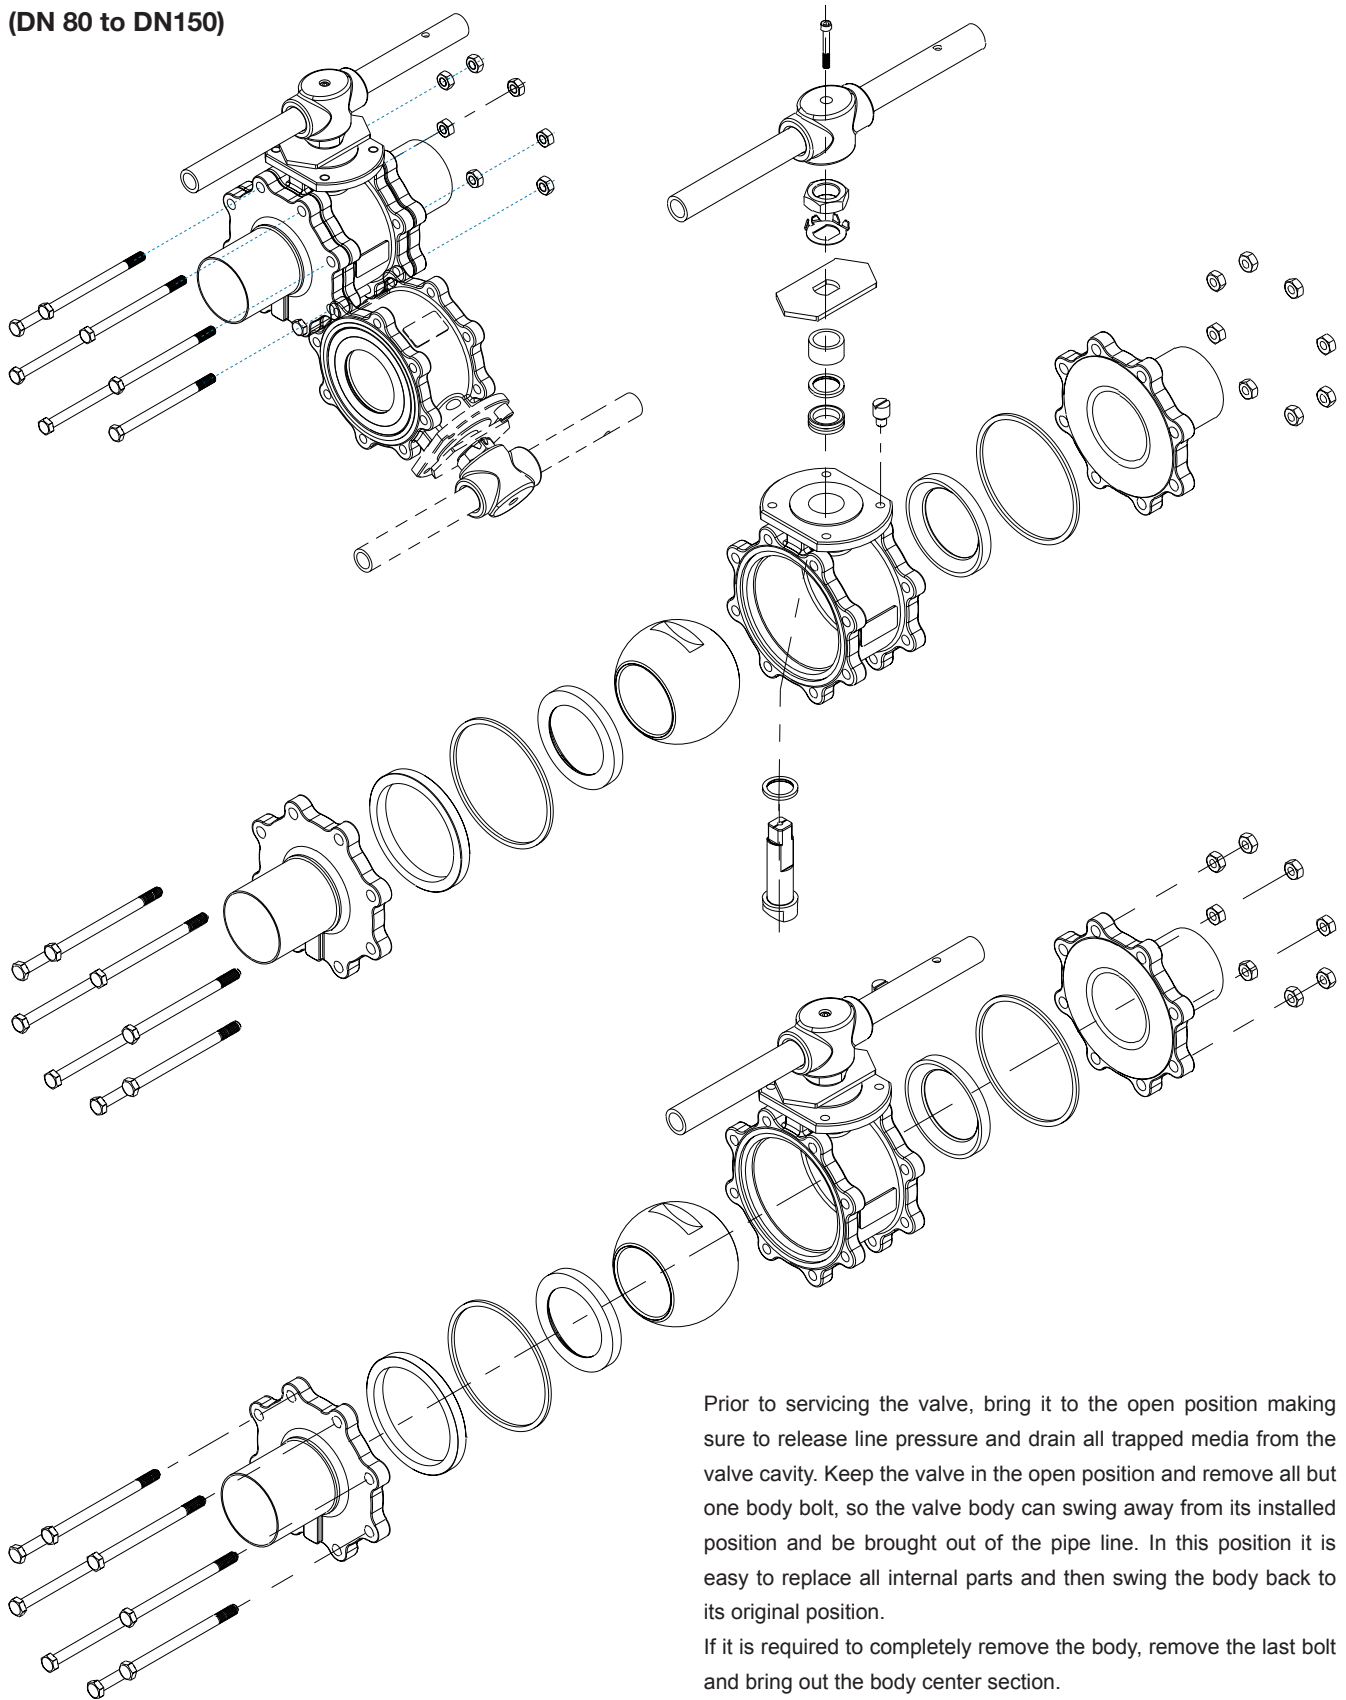

**FIGURE 3**
- 8.4.** Remove all but one body bolt, so the valve body can swing away from its installed position and be brought out of the pipe line (see **figure 3**).